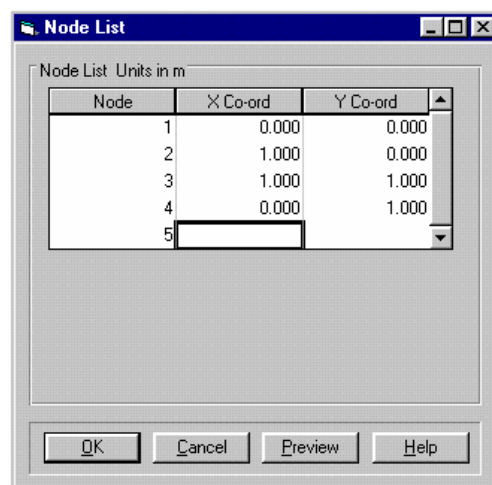

Figure 3-5: Node List dialogue box
Step 1 In the Mesh menu, click on **Node List...** and enter four nodes with co-ordinates (0 , 0), (1 , 0), (1 , 1) and (0 , 1) into the Node List dialogue box, as shown in Figure 3-5.